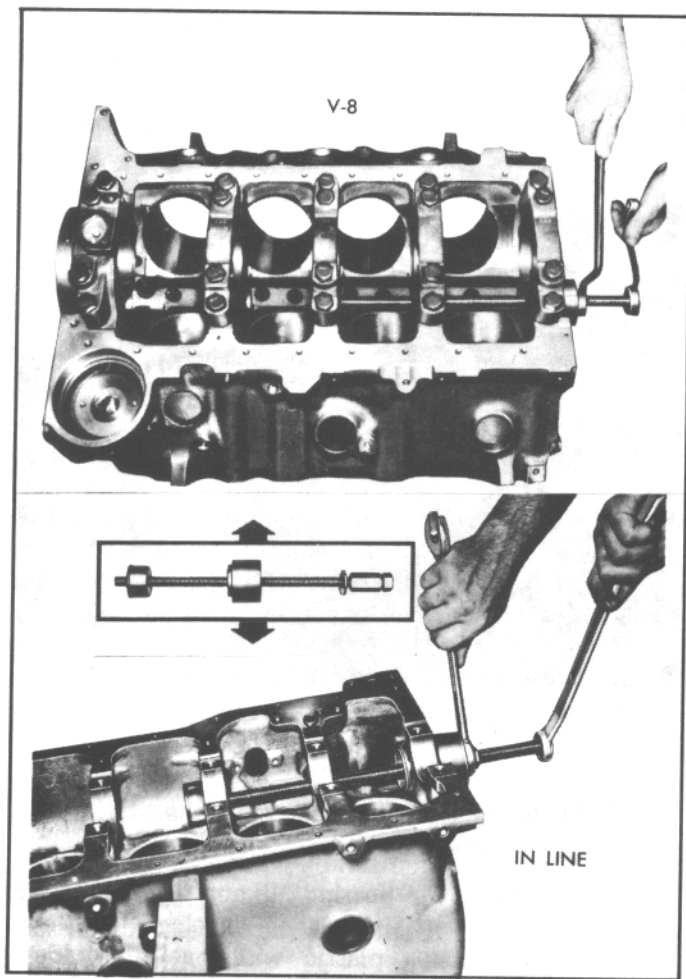

Fig. 89. Replacing Camshaft Center Bearing
4. Using two wrenches, hold puller screw while turning nut. When bearing has been pulled from bore, remove, remover and installer tool and bearing from puller screw (Fig. 89).
4. Using two wrenches, hold puller screw while turning nut. After bearing has been pulled into bore, remove the remover and installer tool from the puller screw and check alignment of oil hole in camshaft bearing (Fig. 89).